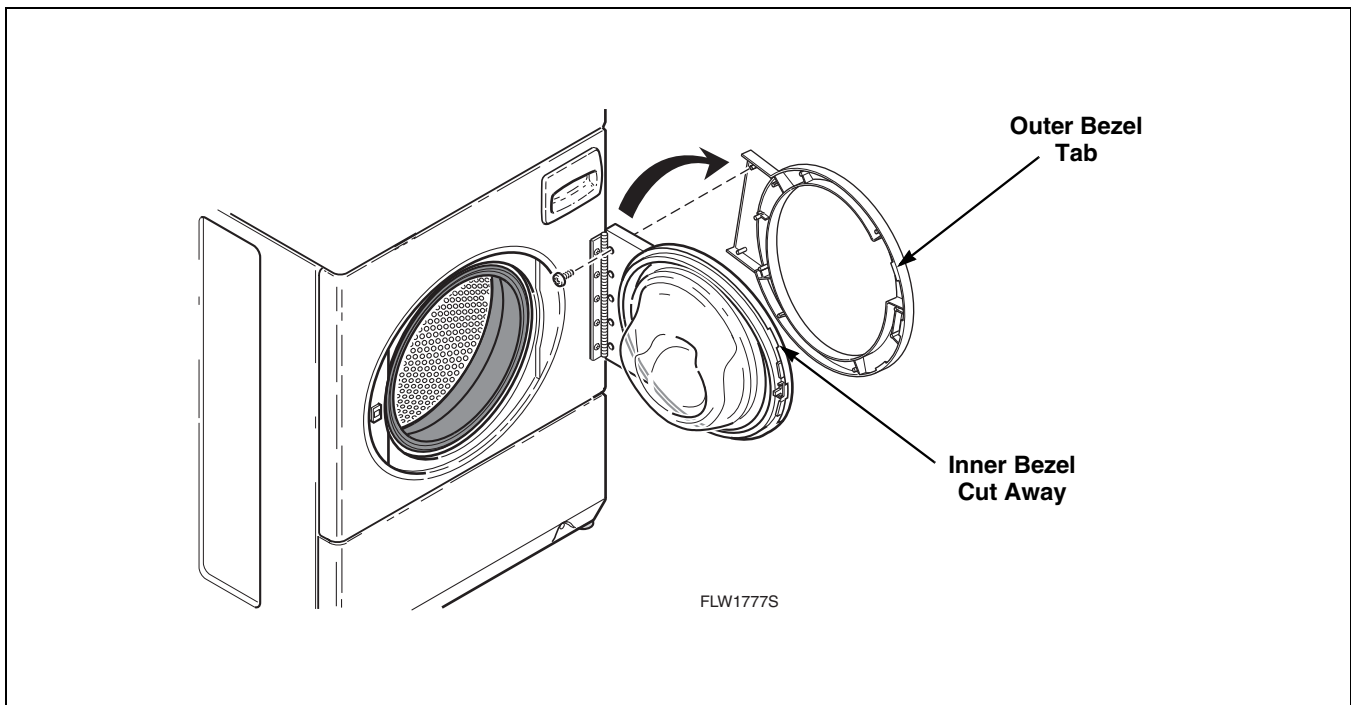

Figure 15
- b. Remove 11 T-20 Torx head screws holding outer door bezel to inner door bezel. Refer to *Figure 15*.
- c. Pull hinge side of outer bezel away from door and slide forward. Refer to *Figure 15*.
- j. Reinstall outer door bezel by aligning outer bezel tabs with cut aways on inner bezel and sliding outer bezel into position. Refer to *Figure 15*.